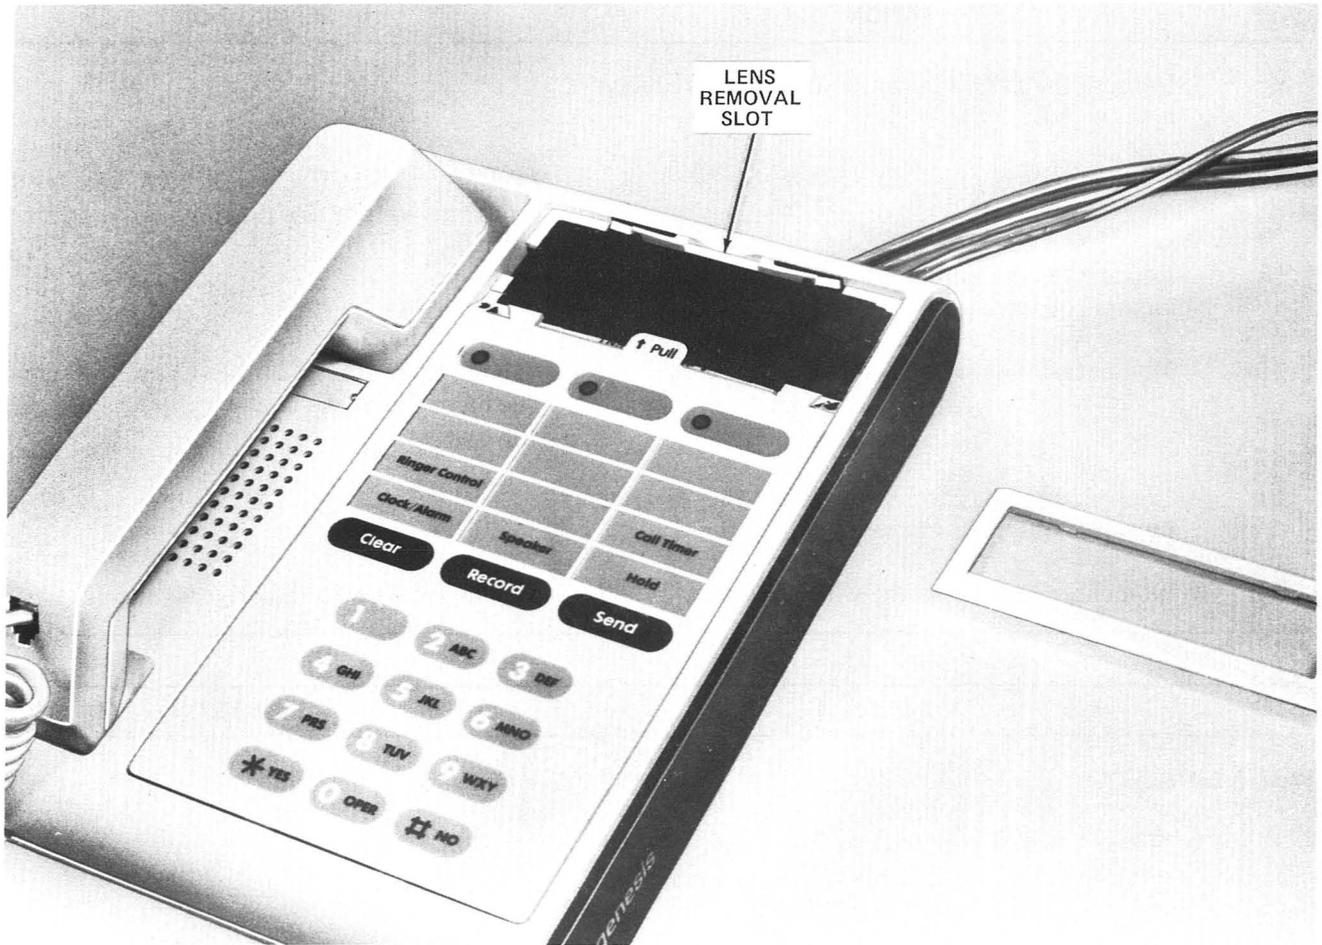

Fig. 14—Designation Card Replacement
4.06 Remove the lens frame by lifting the top of the lens frame as shown in Fig. 14. Remove the designation card by pulling the tab marked PULL
outward from the set (Fig. 14). Slide the new designation card into the area vacated and replace the lens frame.